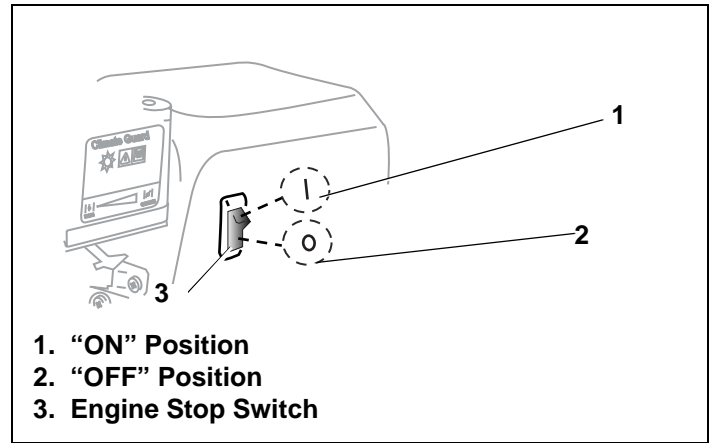

Figure 13. Engine Stop Switch
6. Engine stop switches—Check that the operator knows where all engine stop switches are located. Check that all engine stop switches immediately stop the engine. For stop switch locations, see Figure 13 on page 8. Afterward, continue reading instructions below.
Power Sport engines are equipped with an Engine Stop Switch. This rocker switch is used to shut off the ignition that supplies the spark plug with power. Pressing the switch to the “OFF” position will turn the engine off when it is running. This switch must be in the “ON” position or the engine will not start. See Figure 13.